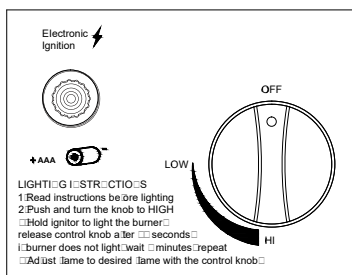

Figure 1
2. Before starting, keep the control knob in the "OFF" position (Figure 1).